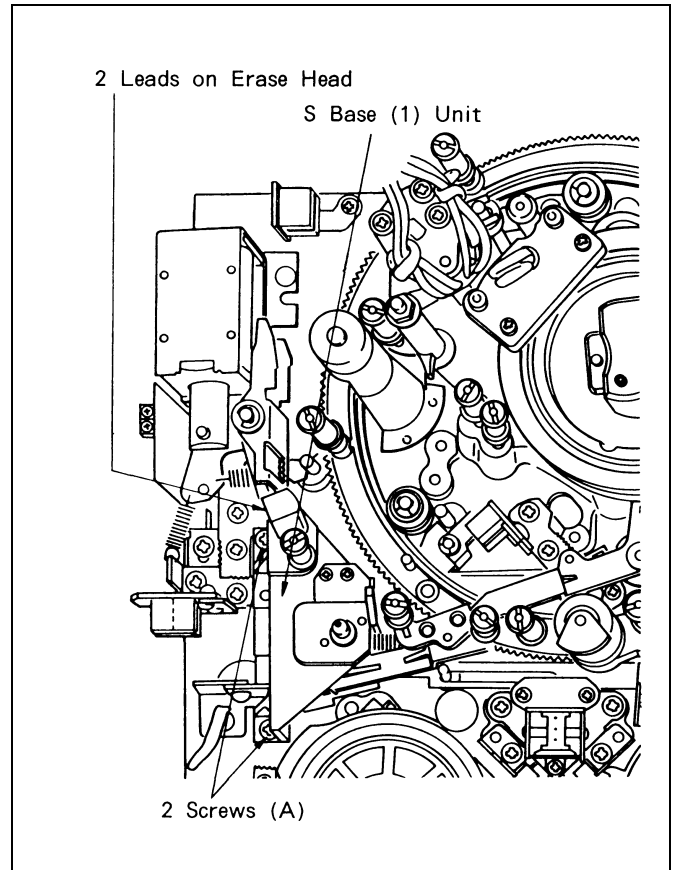

Figure 7-8-1
2. Unsolder 2 leads wire on full erase head as shown in figure 7-8-1.
3. Remove 2 screws (A) and remove S Base (1) Unit as shown in figure 7-8-1.